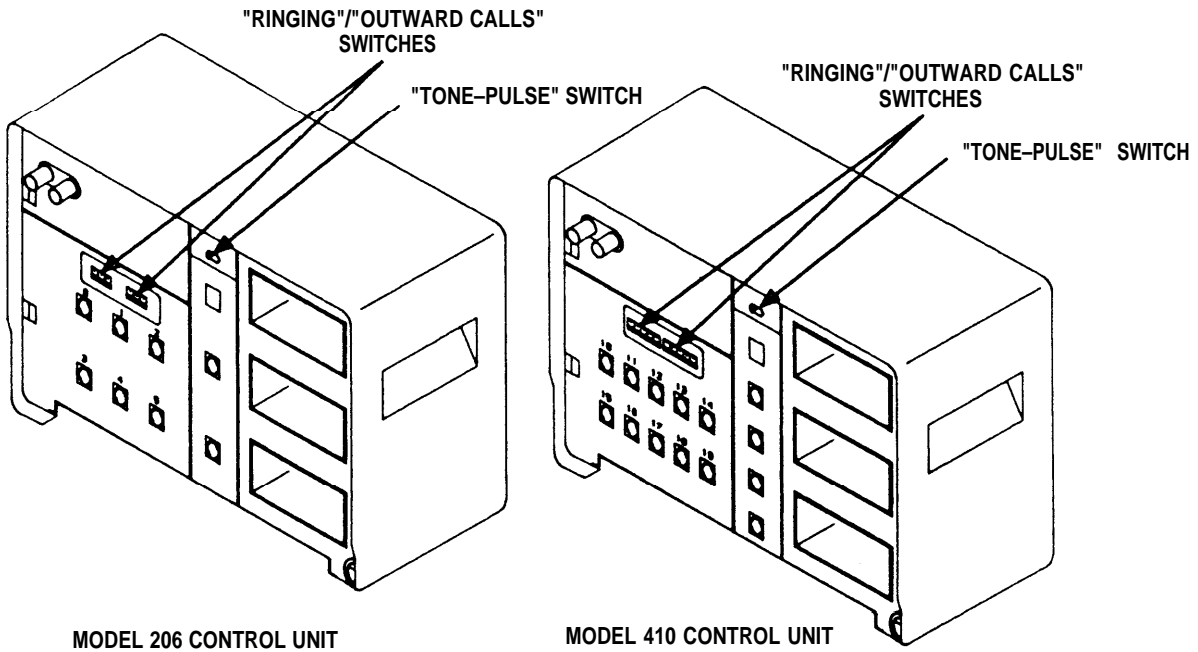

Figure 8
Your local telephone exchange service company requires your system to send out either “TOUCH-TONE® dialing signals” or “rotary dialing pulses”. The “Tone-Pulse” switch on the control unit (Figure 8) determines the type of signal that your system sends. Call your local telephone exchange service company if you do not know what signals your system is expected to send out.
- If you have Basic Service, the “Ringing” switches (Figure 8) control ringing on their associated voice terminals.